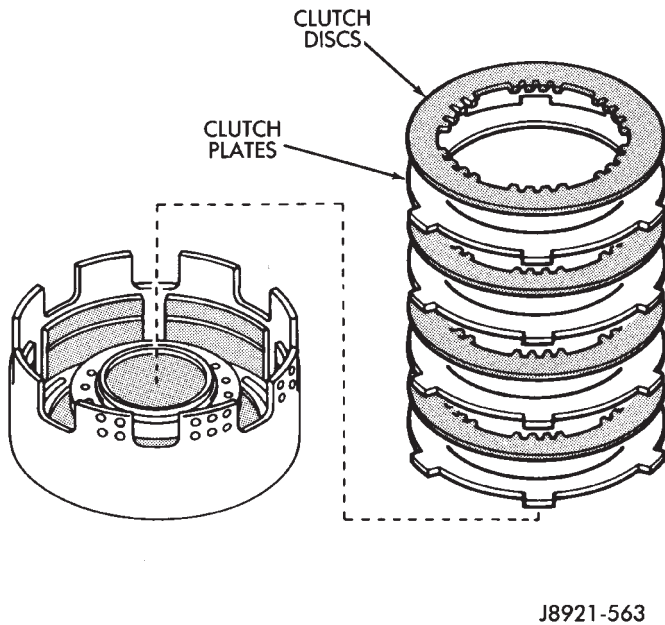

Fig. 11 Installing Direct Clutch Discs And Plates
(4) Install clutch discs and plates (Fig. 11). Install plate then disc until all plates and discs are installed. Four plates and discs are required.